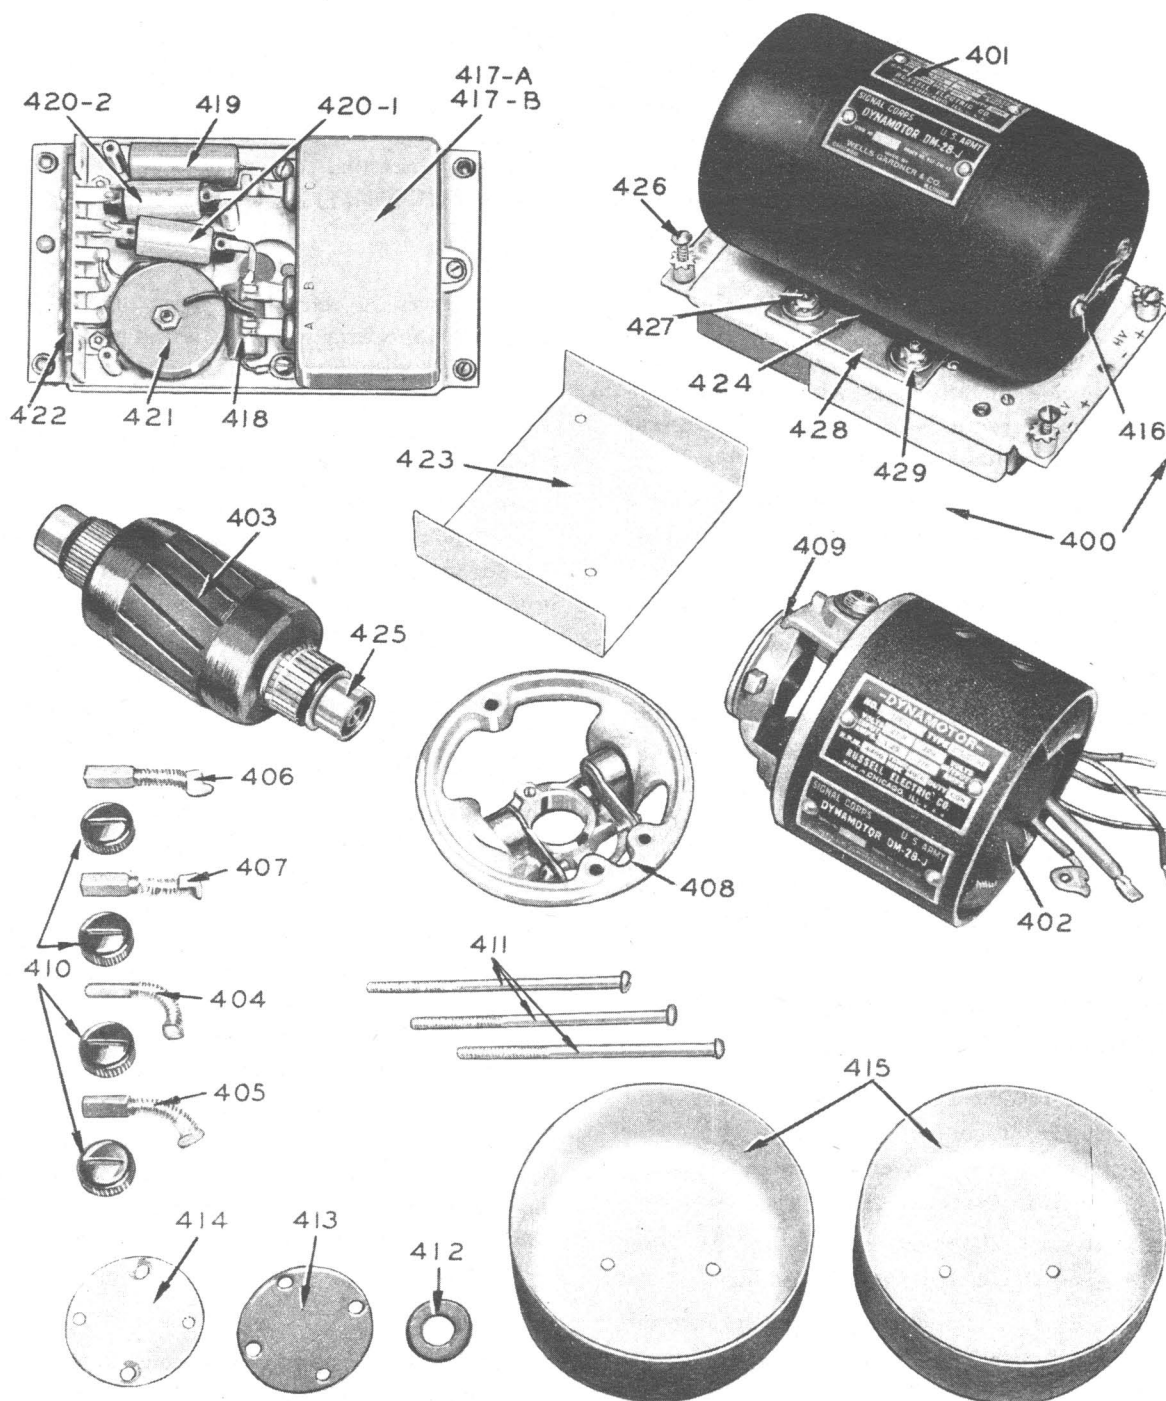

Figure 8 — Dynamotor DM-28-J and Filter
*a. REMOVAL FROM CHASSIS.*—The dynamotor and filter assembly (Figure 8, reference 400) may be removed easily from the receiver chassis by repeating the following steps in the order given:
(1) Loosen two thumbscrews 299 on the front panel, and remove the chassis from the cabinet.
(2) Loosen the five screws on the dynamotor terminal strip 422, and withdraw the five leads with spade terminals from under them. Retighten the five screws partially in order that they will clear the chassis when the dynamotor is removed.
(3) Push the left (from front of chassis) thumbscrew rod stop spring towards the end plate with a screwdriver, and withdraw thumbscrew rod 299 until the second stop position is reached.
(4) Loosen the four captive screws 426 which fasten the dynamotor to the chassis, and lift the dynamotor vertically from the receiver.